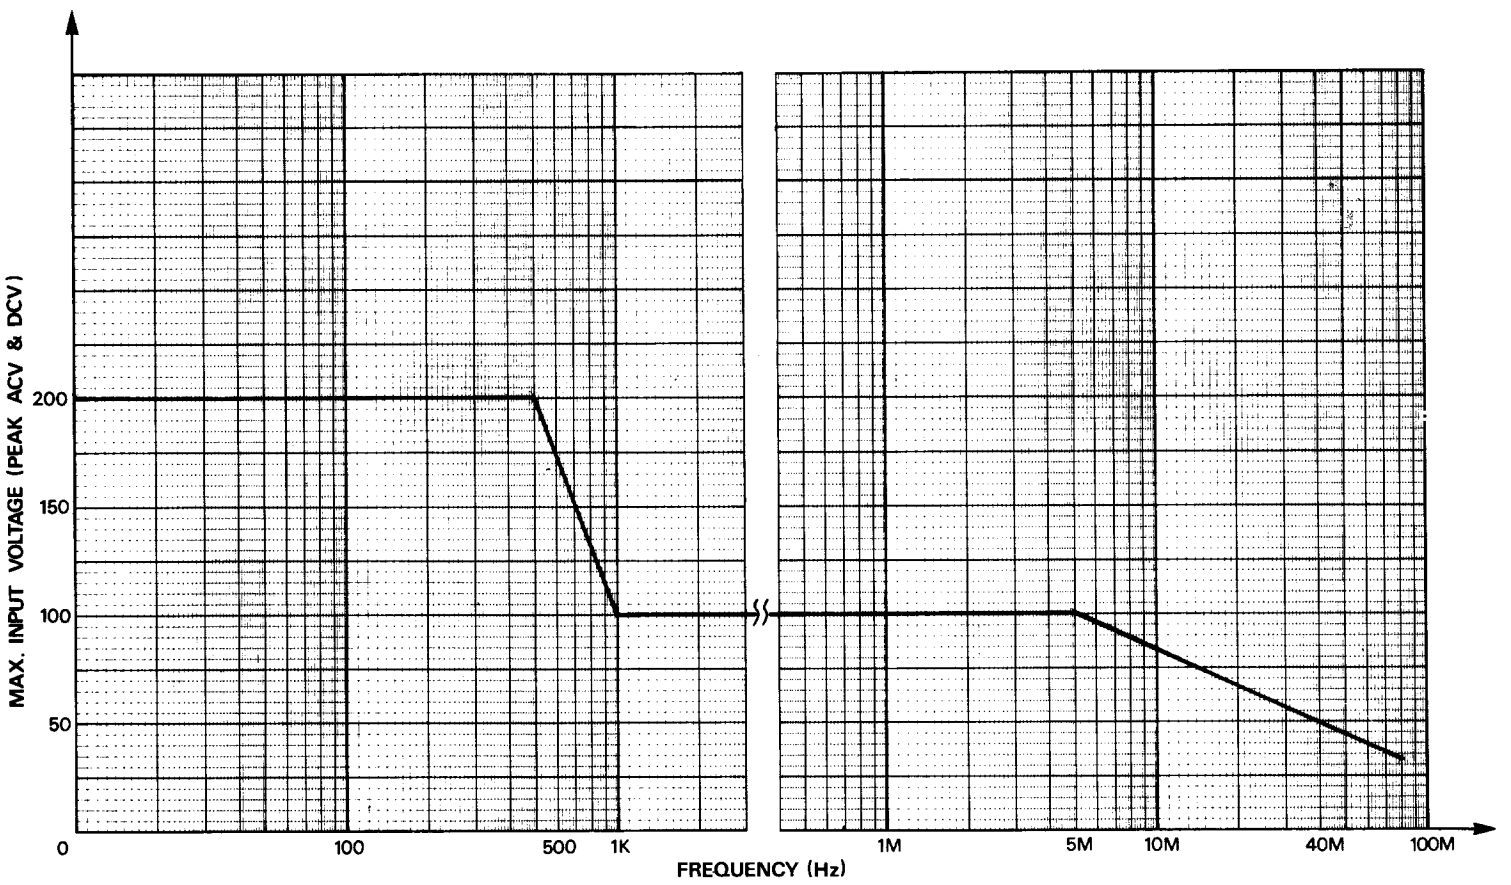

Fig. 1. Maximum input protection derating curve.
Maximum Input	200V (DC+peak AC), DC to 500 Hz, decreasing linearly to 100V (DC+peak AC) at 1 KHz. 100V (DC+peak AC), 1 KHz to 5 MHz, decreasing linearly to 30V (DC+peak AC) at 80 MHz. See Fig. 1.
8. **XI/X10.** This switch controls the built-in attenuator in the counter. If the switch is in the out position (XI), the input is applied to the counter circuitry without attenuation. Pressing the switch in (X10), switches an X10 attenuator in series with the input signal. The attenuator limiter prevents the counter logic circuitry from mis-counting when noisy or improperly terminated high-amplitude signals are applied to the counter. Signal voltage greater than 30 volts may damage the first stage (see Fig. 1).